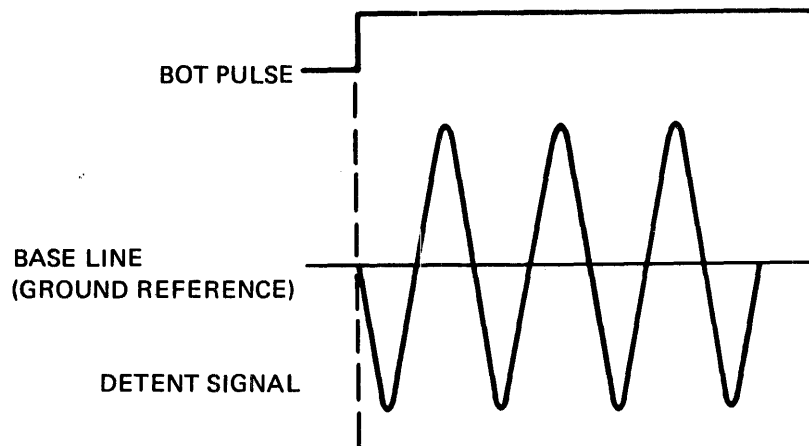
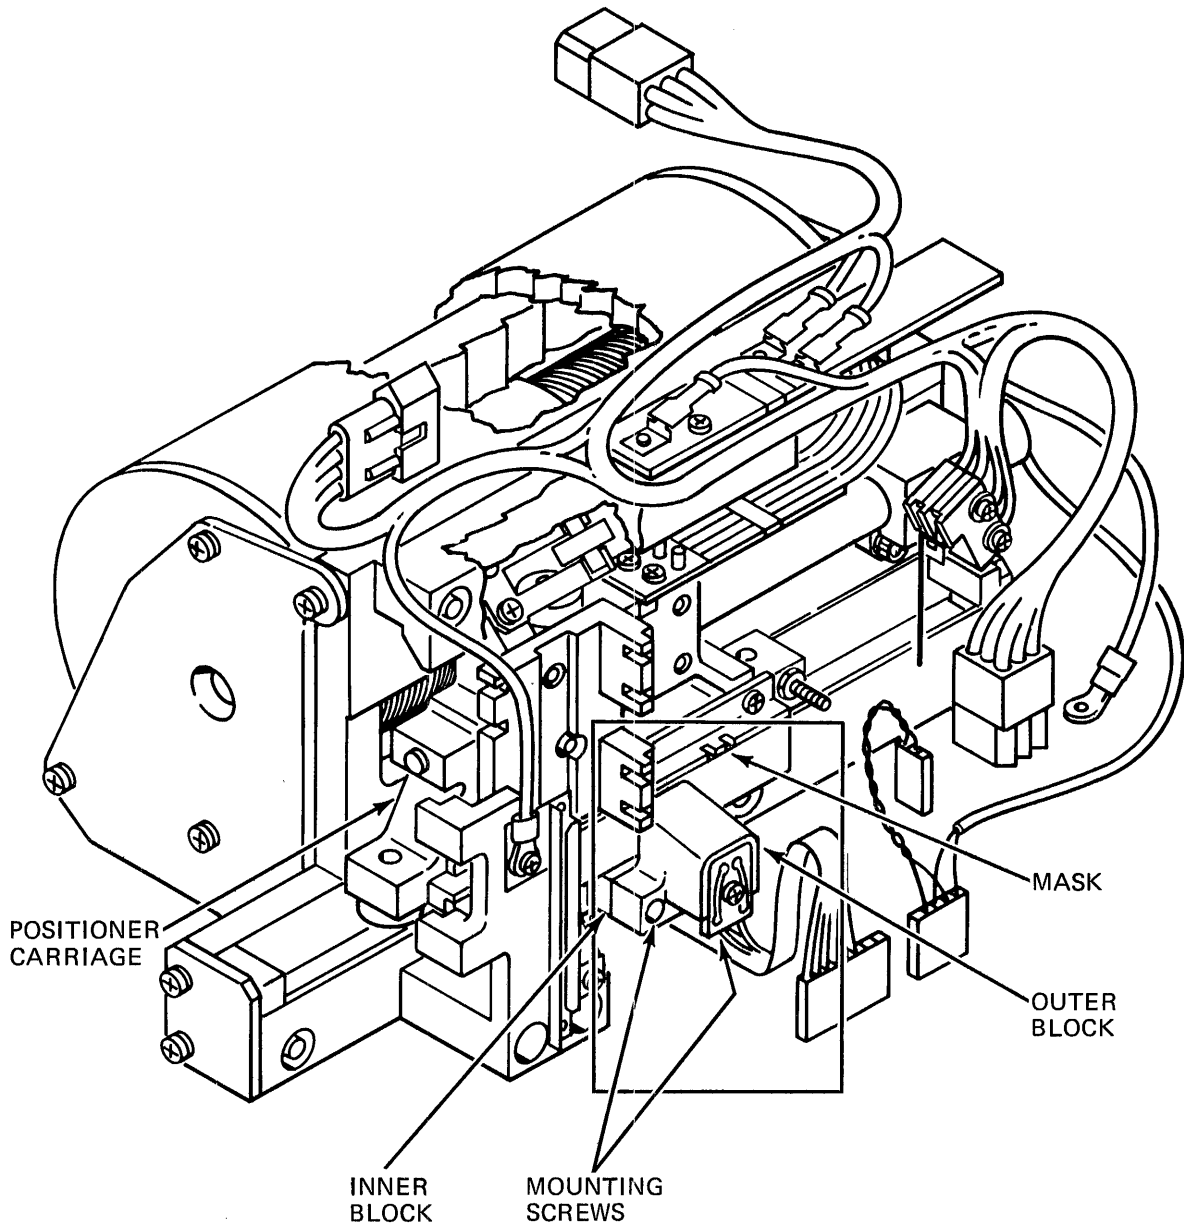

Figure 5-33. Waveform – Phasing Adjustment
Figure 5-34. Optical Detent Assembly – Phasing Adjustment
- E. When moving carriage forward from home position the first Detent signal should start going negative from the base line (ground reference) as shown in Figure 5-33 (not more than $-0.5V$).
- L. Loosen the two mounting screws on Optical Detent Assembly. See Figure 5-34.
- M. Manually load heads. To obtain correct phasing while moving carriage forward from its Home position, gently pivot the Inner Block (ref. figure 5-34) on the axis of the fixed pin until the desired waveform is obtained (ref. figure 5-33). Detent signal should be slightly below, but not more than, $-0.5V$ from base line when output at TP9 goes high.